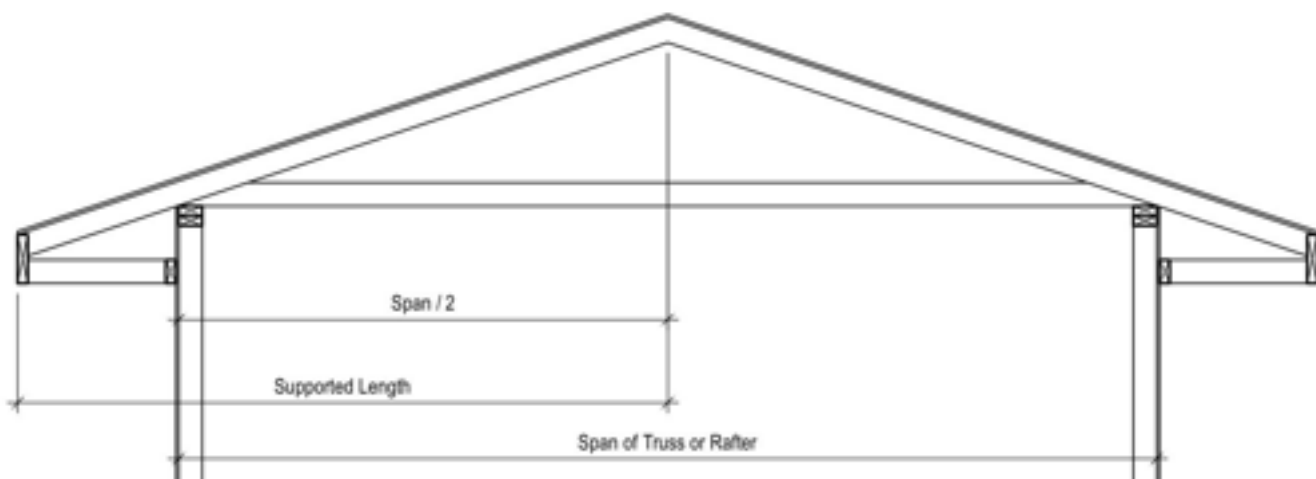

Figure 12
3. Supported length means half the span of trusses, roof joists, or rafters supported by the lintel plus the length of the overhang beyond the lintel. Figure 12